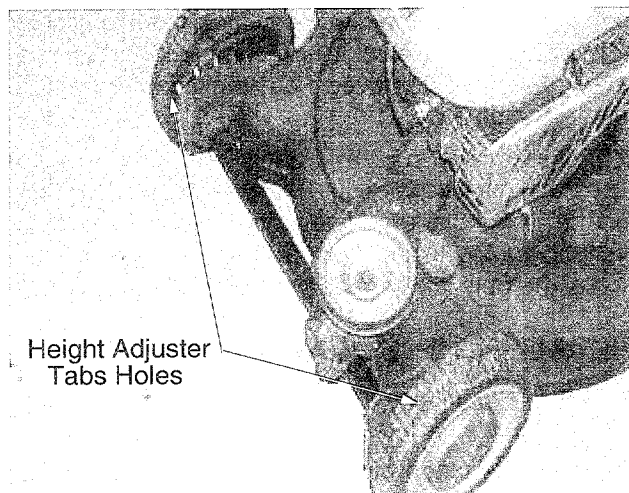

Figure 22
2. Remove the belt guard from the unit by lightly pressing inward on the sides of the belt guard. This will release the tabs that secure the belt guard to the height adjuster brackets. See Figure 22.